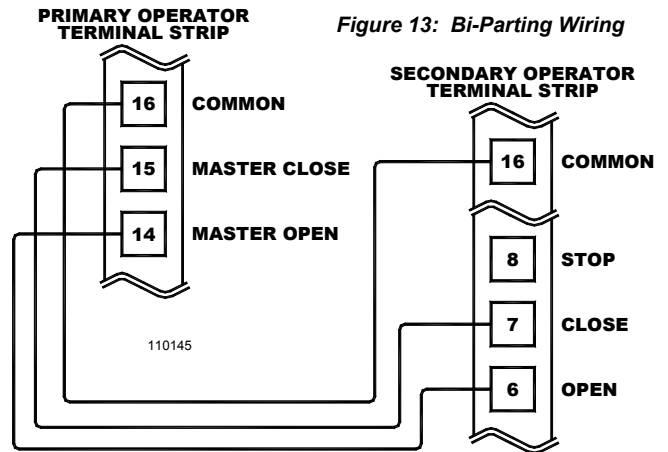

Figure 13: Bi-Parting Wiring
1. Wire the Primary Operator Terminal #14 to Terminal #6 in the Secondary Operator, see Figure 13 above.
2. Wire the Primary Operator Terminal #15 to Terminal #7 in the Secondary Operator, see Figure 13 above.